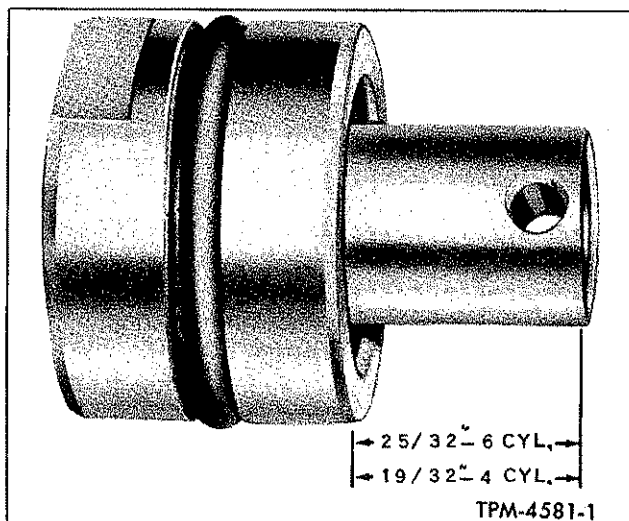

Figure 64—High Speed Piston Preliminary Setting
6. If sleeve and piston have been separated they should be threaded together until a preliminary measurement of $\frac{25}{32}$ " for 6-71 or $\frac{19}{32}$ " for 4-71 engines is obtained (fig. 64).
4. Measure distance from end of piston to end of sleeve (fig. 64). This dimension should be approximately $2\frac{5}{32}$ " for 6-71 or $1\frac{13}{32}$ " for 4-71 engines.
5. Should it be necessary to increase engine RPM the dimension, shown in Figure 64, should be increased. Also, when necessary to decrease engine RPM the dimension, shown in Figure 64, should be decreased. **NOTE:** Each full turn of piston and sleeve will change engine approximately 100 RPM.